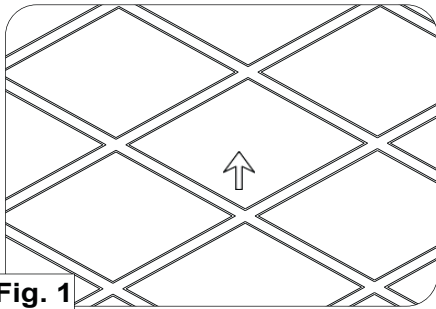

Fig. 1
1. Remove ceiling panel and neighboring panels if necessary, for installation access (Fig. 1).